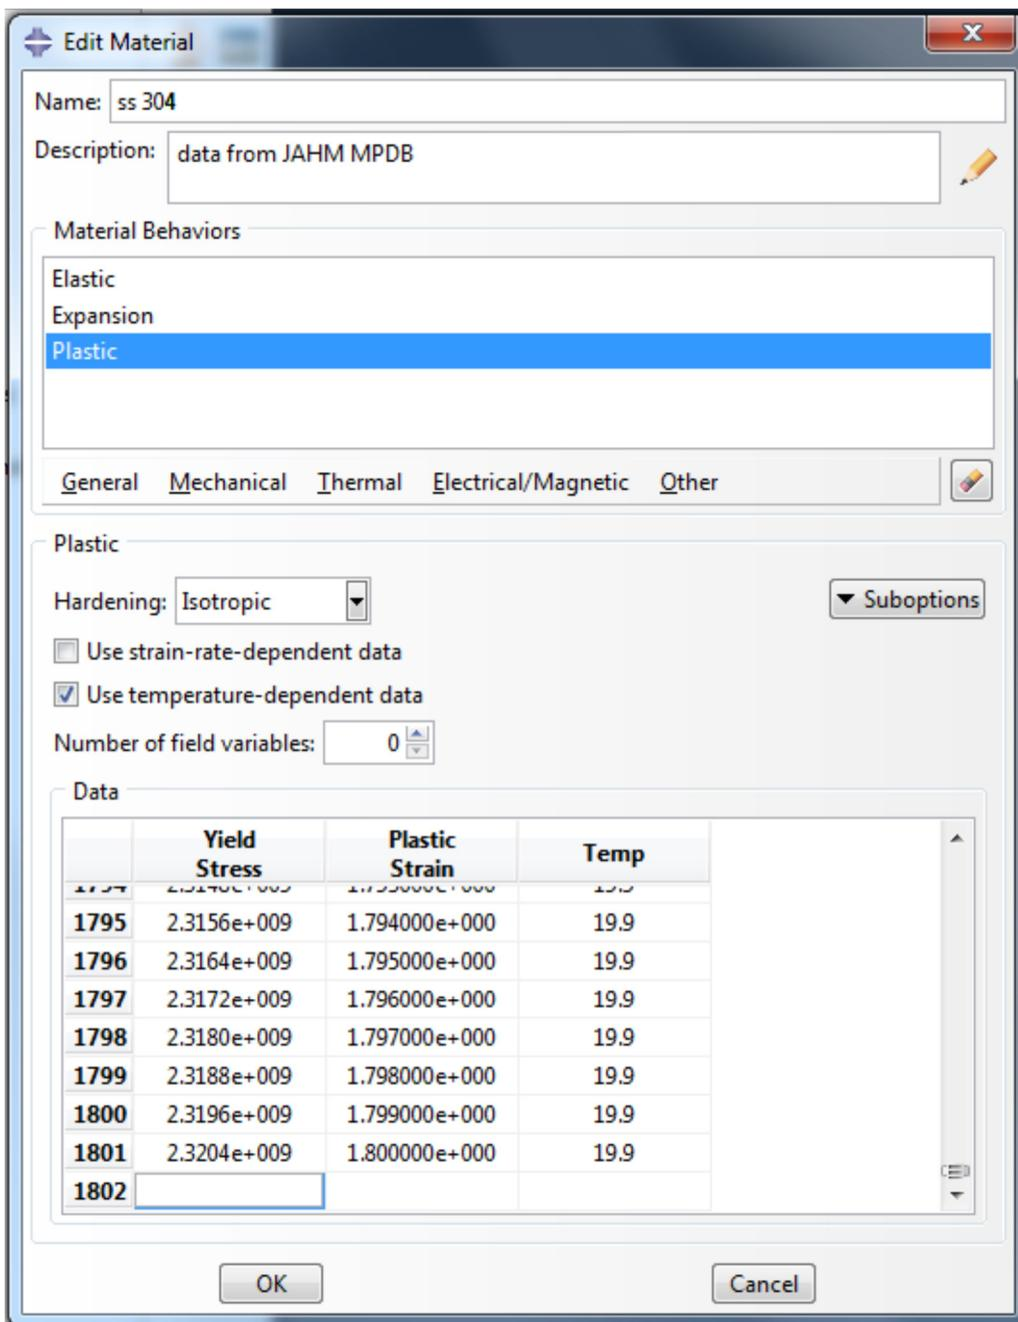
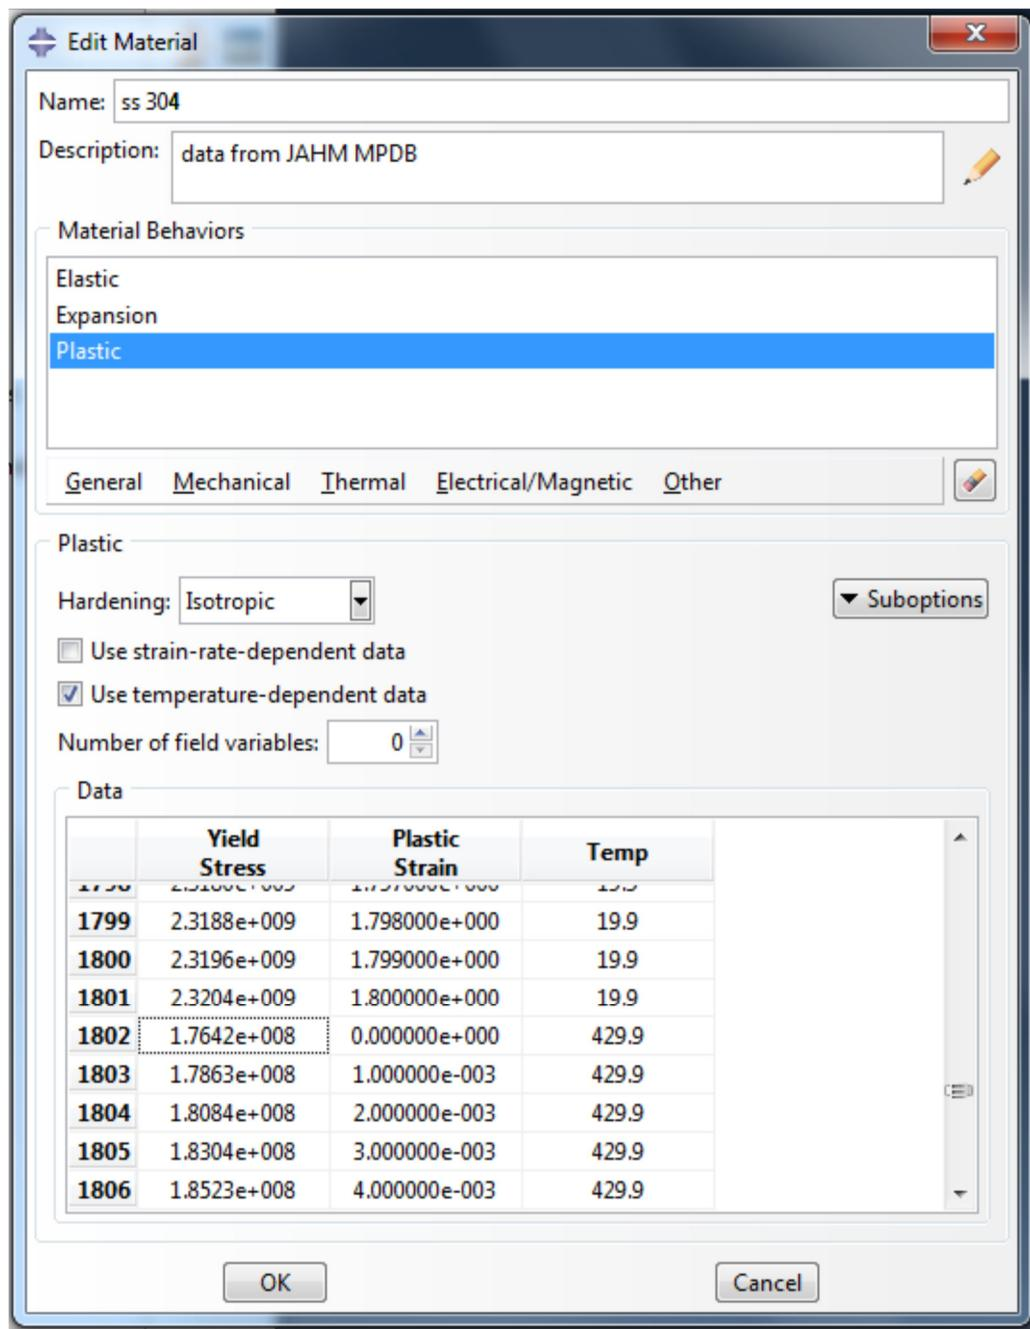

Figure 16.
Figure 17.
- k) Move the cursor to the first cell in the new empty row, Figure 16. Right-click in this cell and open the data file with the next set of stress-strain data. The additional data will be read-in and appended, Figure 17.